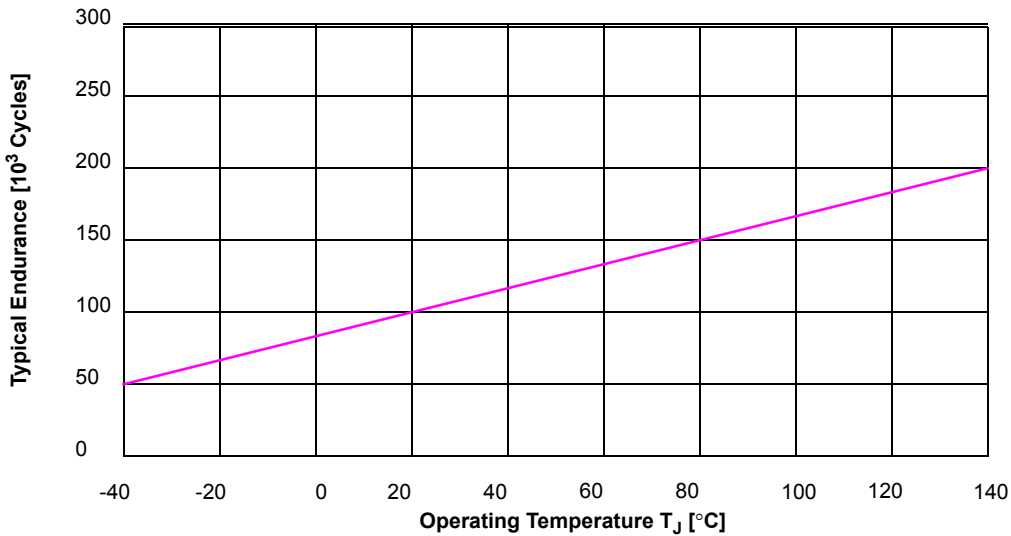

**Figure 10. Typical Flash Cycling Endurance vs. Temperature**
- 48. Spec table quotes typical endurance evaluated at 25 °C for this product family, typical endurance at various temperature can be estimated using the graph in Figure 10. For additional information on how Freescale defines Typical Endurance, refer to Engineering Bulletin EB619.